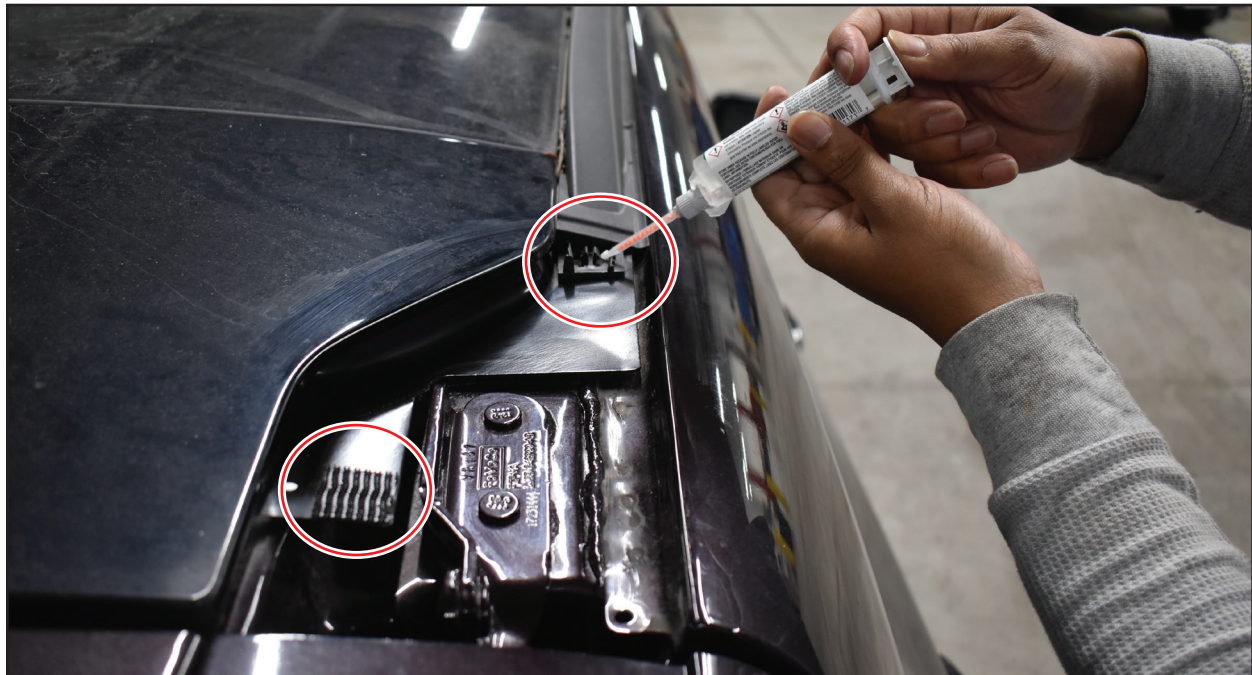

FIGURE 7
8. Apply one of the approved epoxies/adhesives to both areas that were just cleaned on the body, See Figure 7.